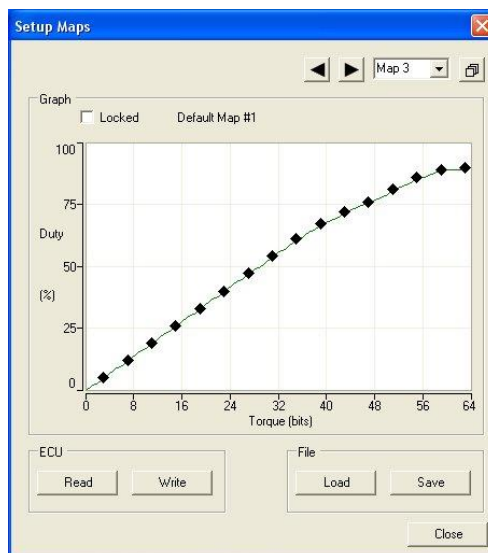

Figure 11 - Setup Maps Dialog (Map Edit)
5. When the **Locked** checkbox is not checked edit markers are displayed at 16 places along the map (Figure 11). Use the mouse to drag each of the markers until the required map shape is obtained. Note that each marker is constrained by the markers either side of it.